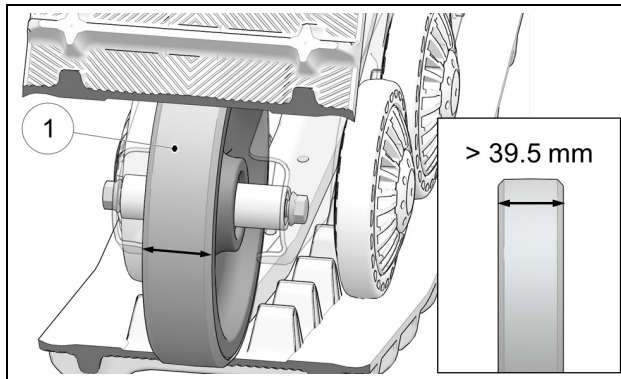

Figure 40
Verify wear on contact band (1) of 200-mm wheels. The wheel must be replaced if the surface is worn out, cracked or has holes in it. A wheel that is excessively worn will not offer enough support for track guidance. Track guides may also wear prematurely. Figure 40.
Verify wear on guidance strips on both sides of 200-mm wheels. Replace wheel if it narrows to a width of 39.5 mm or less (42.5 mm when new). A wheel that is excessively worn will not offer enough support for track guidance. Figure 40.